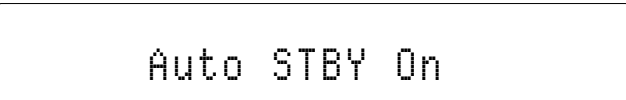

Figure 45
3. To re-activate the Auto Off Feature, press and hold in the Power Push-button on the Remote Control for about 5-10 seconds, at which time the Front Panel Display indicates “Auto STBY On”. Refer to figure 45.